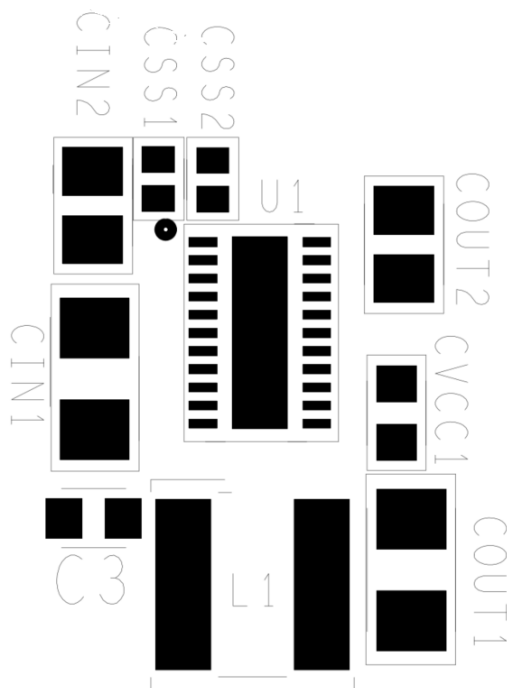

Figure 45. Printed Circuit Board Example Component Placement
Proper layout of the power converter minimizes EMI and noise, and ensure first pass success of the design. PCB layouts are provided in multiple formats on the Renesas web site. In addition, Figure 45 illustrates the important points in PCB layout. In reality, PCB layout of the RAA212421 is quite simple.
- A multilayer PCB with GND plane is recommended. Figure 45 shows the placement of the critical components in the converter. Note that capacitors C_{IN} and C_{OUT} could each represent multiple physical capacitors. The most critical connections are to tie the GND1 and GND2 pins to the package GND pad and then use vias to directly connect the GND pad to the system GND plane. This connection of the GND pad to system plane ensures a low impedance path for all return current, as well as an excellent thermal path to dissipate heat. With this connection made, place the high frequency MLCC input capacitor near the V_{IN1} pin and use vias directly at the capacitor pad to tie the capacitor to the system GND plane.
An example component placement is shown in Figure 45.